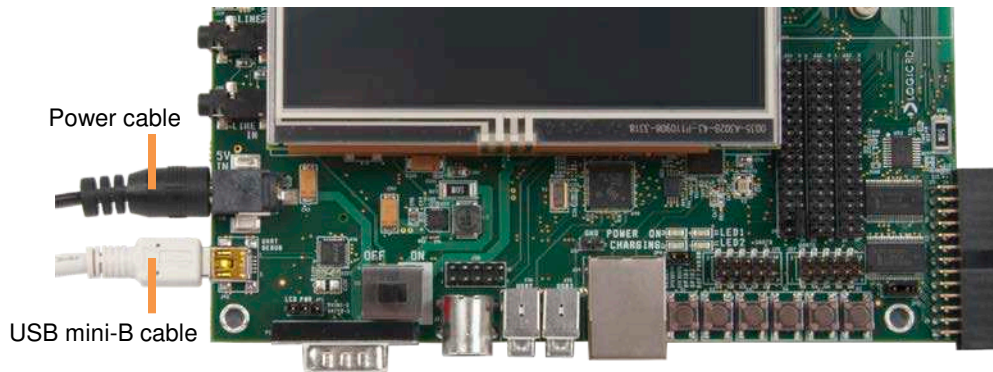

Figure 2.2: Connect USB Mini-B Cable
| Figure 2.2: Connect USB Mini-B Cable | 4 |
1. Connect the USB mini-B cable to the debug UART USB port on the baseboard and to an empty USB port on your host PC. See Figure 2.2.
3. Plug the power adapter into an electrical outlet and the 5V line output connector into the power-in connector on the baseboard. See Figure 2.2.